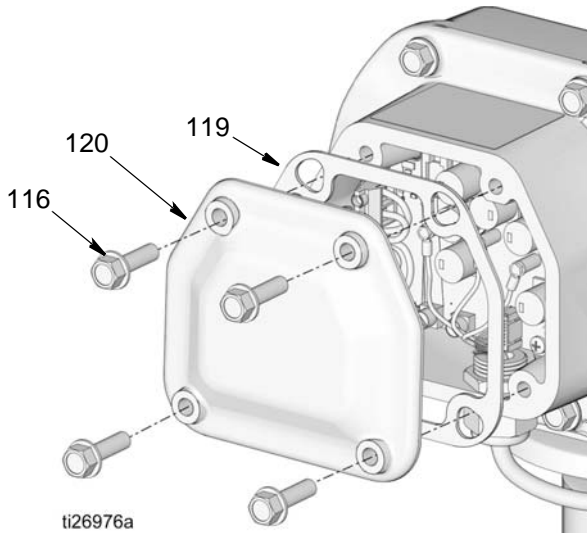

FIG. 65
- Remove screws (116) from motor control box cover (120) and remove cover and gasket (119) (FIG. 65).